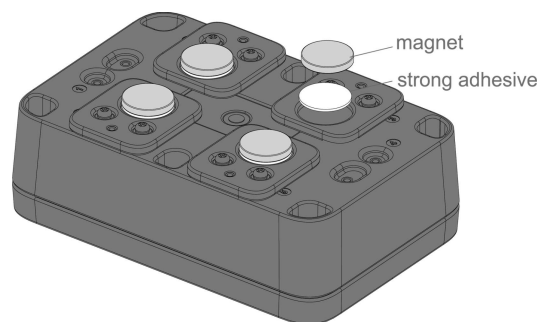

Figure 32: Fixing the magnet mount on the enclosure
3. Place the magnets onto the mounting, as shown in **Figure 32**.